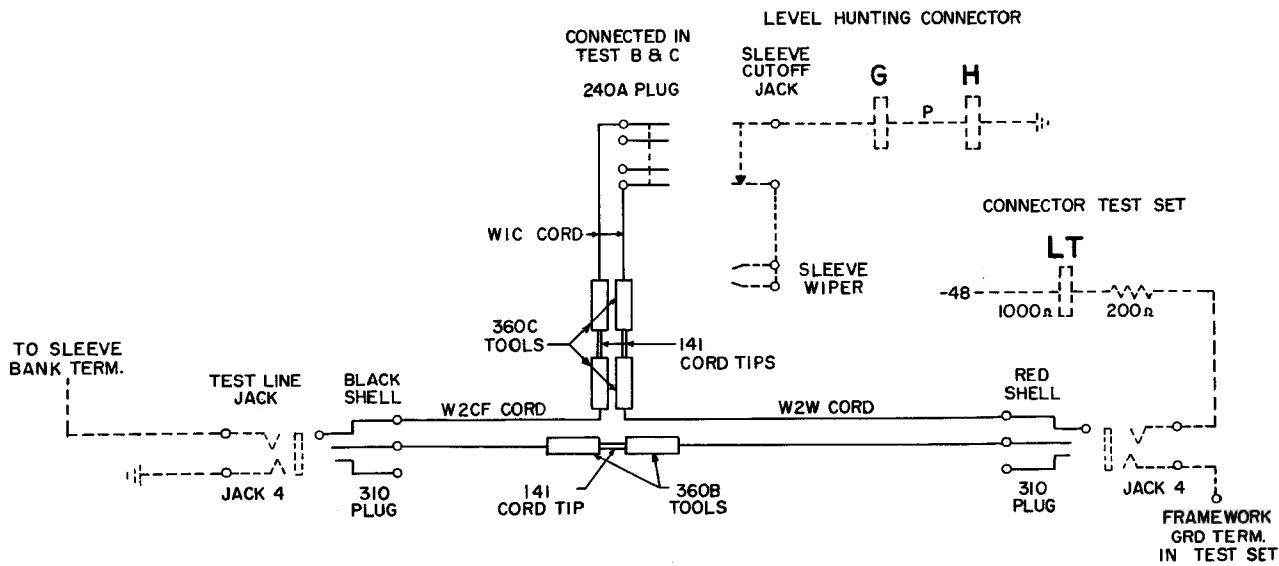

Fig. 1 - Testing Cord
**2.07** Testing cord, W2W, equipped with 310 plug, 360B tool, and 360C tool (2W17A cord); W2CF cord equipped with 310 plug (replace red shell with black shell), 360B tool, 360C tool (2W17D cord); two W1C cords, each 12 feet long; two 360C tools; 240A plug; three 141 cord tips. Connect to form special cord as shown in Fig. 1.
4	Insert black shelled 310 plug of special test cord (Fig. 1) into jack 4 of test line (level hunting) on connector frame, and insert red shelled 310 plug of special test cord (Fig. 1) into jack 4 of test set.
14	Insert 240A plug (stay cord to the right) of special test cord (Fig. 1) into sleeve cutoff jack of connector.  Note: If sleeve cutoff jack wiring is reversed, reverse 240A plug of special test cord.